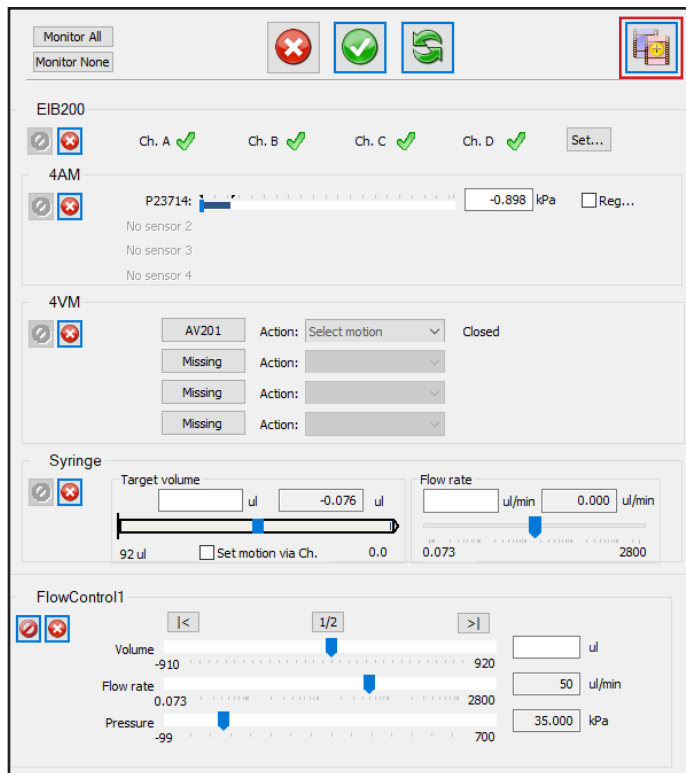

Fig. 14
- 2) Adjust the target volume, flow rate, and/or pressure, then scroll back up and click the **Save As New Sequencing Step** button (Fig. 14).